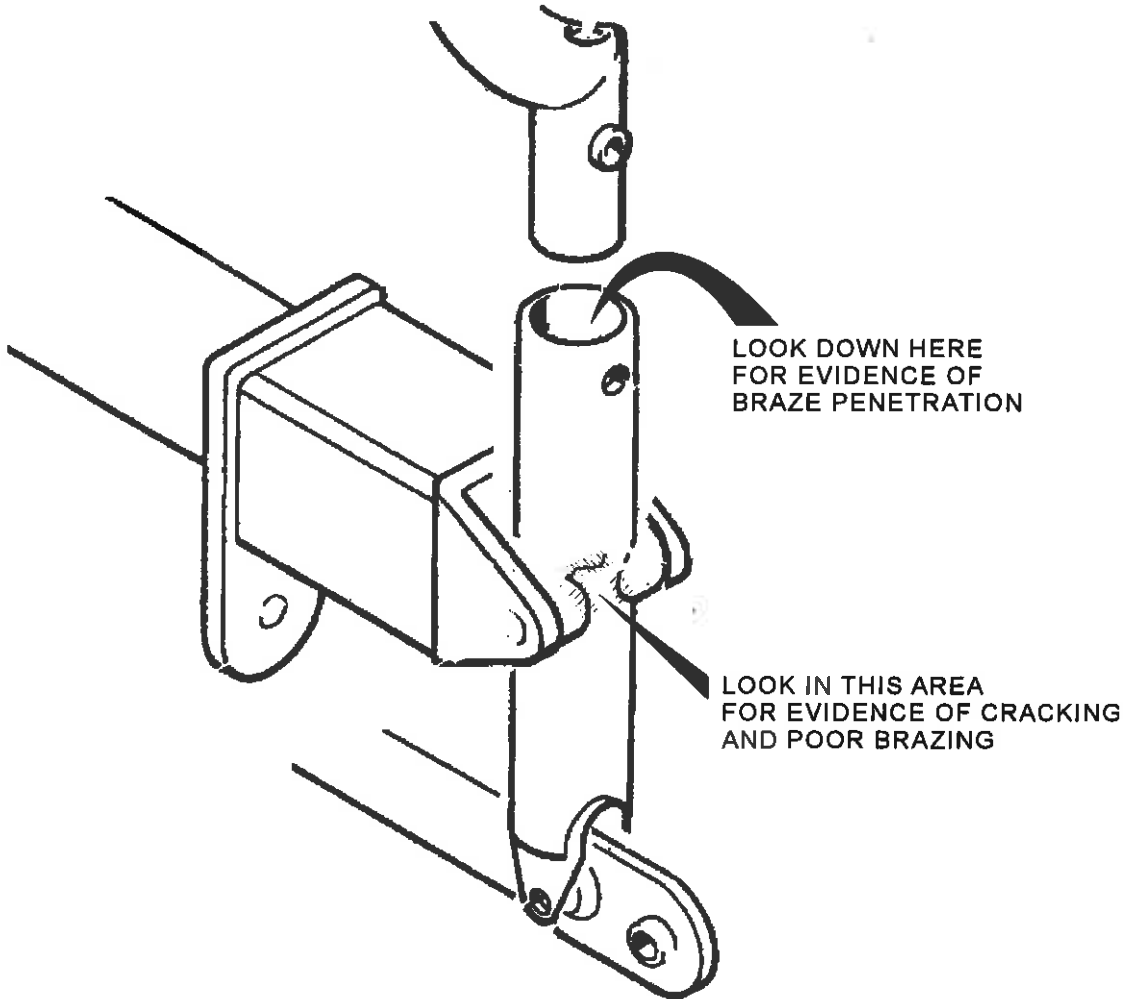

FIGURE 1
3. Visually inspect for cracking as indicated by Figure 1 page 2.